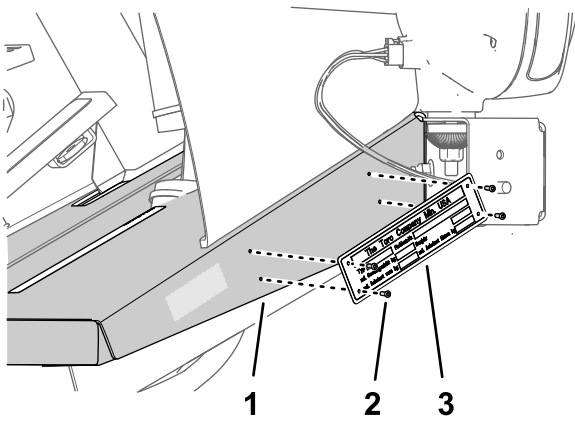

Figure 63
6. Secure the data plate to the floor plate channel with 4 rivets (Figure 63).